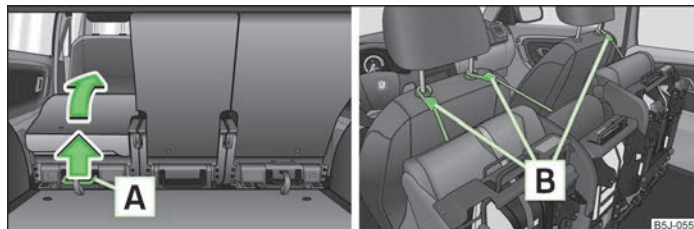

Fig. 40 Fold seat fully forwards/lock folded forward seats
- Pull the lever » Fig. 40 up before folding the seat forwards fully.
- Pull the lever **A** » Fig. 40 up and fold the seat forwards fully.
- Secure the folded forward seat with the aid of the fixing belt **B** to a guide rod of the head restraint for the front seat » Fig. 40.